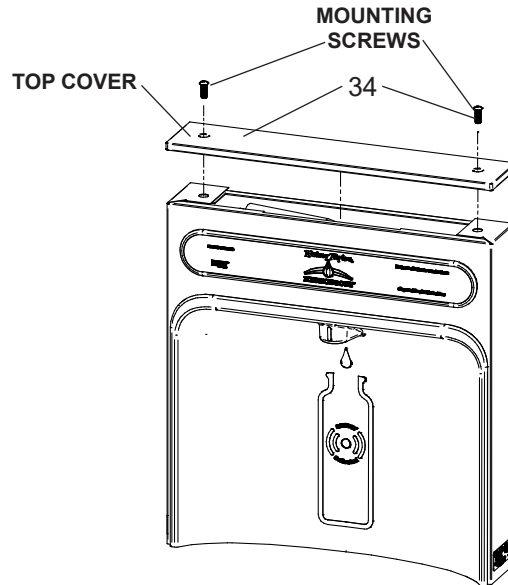
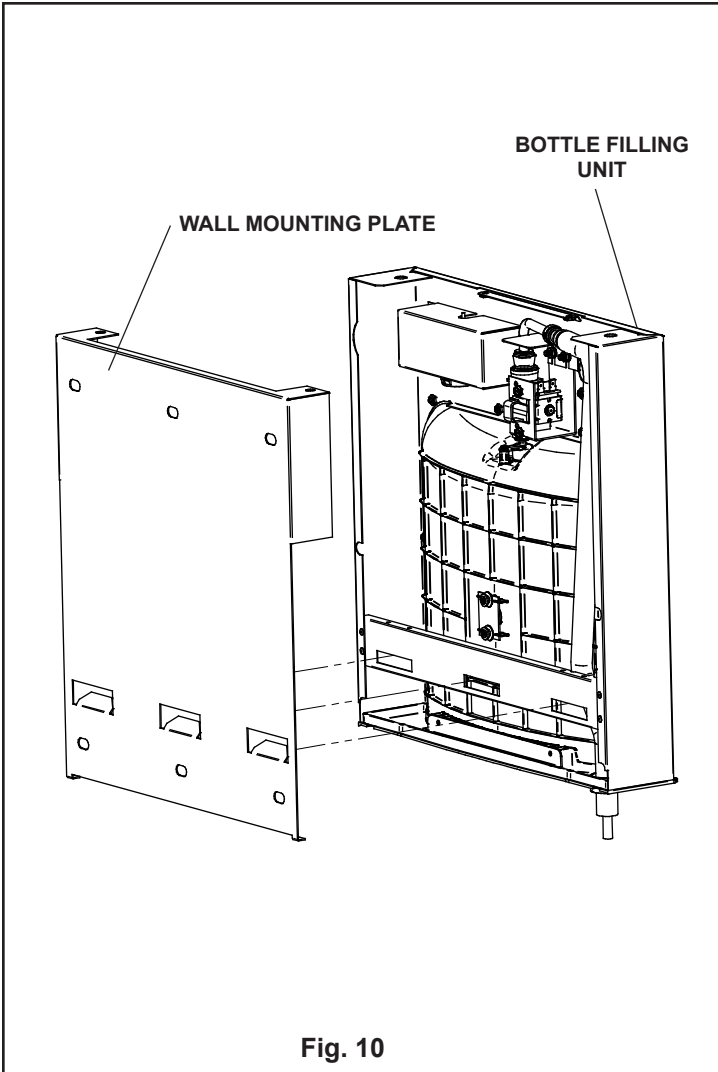

Fig. 7
Fig. 10
- 1) Remove two (2) mounting screws with 5/32" Allen wrench holding top cover to Bottle Filler (See Fig. 7). Remove top cover. Note do not discard mounting screws, they will be needed to reinstall top cover.
- 8) With the power cord and waterline through hole on top of water cooler place Bottle Filler on the three (3) angled tabs protruding from the wall mounting plate installed on wall. Make sure round boss in gasket fits in hole of basin. (See Fig. 10).
- 9) Once Bottle Filler is installed on wall plate tabs, water line and power cord are installed properly, push top of Bottle Filler toward wall and line up top cover two (2) holes.
- 10) Reinstall Top Cover on Bottle Filler (See Fig. 7) with two mounting screws from step 1 above. Caution, do not over tighten screws.